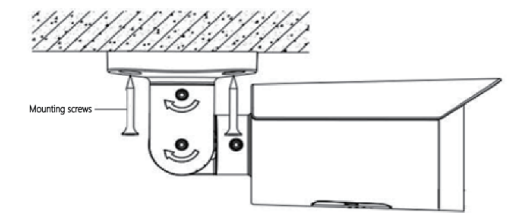

Figure 2-2 Fixed camera
3. Fixed camera: This series of cameras use the bracket integrated structure, with four screws to fix the camera base in the location where it needs to be installed, as shown in Figure 2-2.